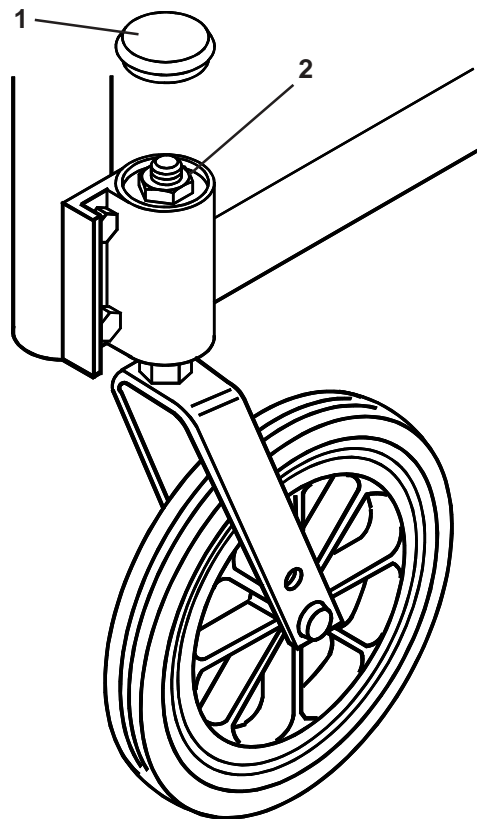

Fig. 46
To remove play from the castor stem (Fig. 46), remove the dust cover (1) by prising it off. Tighten the nut (2) with a 19mm A/F socket spanner until all play is removed, yet still allows the castor fork assembly to rotate freely. Replace the dust cover by snapping it back in place.